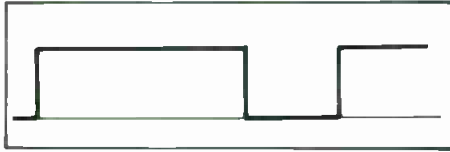
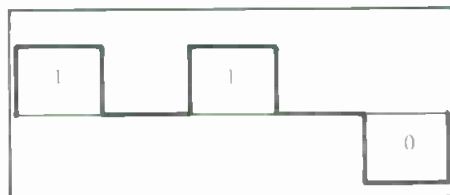

Figure 1. How many ones and zeroes are in this bit sequence?
Figure 2. A self-clocking code.
If we are to place all the data bits on one wire, we need a way to tell when one bit ends and the next one begins. Consider the bit sequence of FIGURE 1. Is that four 1s followed by two 0s, or eight 1s followed by four 0s? We need a clock to tell where the bits are. A similar type question concerns the difference between 15 1s and 16 1s. Unless we have an absolute clock time reference, we cannot make the judgment.
The simplest self-clocking code is the Return-to-Zero (RZ) code shown in FIGURE 2, with the data pattern 110. It is a tri-valued code which returns to the zero value in between each bit, regardless of the value of the bit. A positive value signifies a 1 and a negative value signifies a 0. It is self-clocking because each bit is observable regardless of the number of similar bits. In one sense,
We are now in a position to understand one of the interesting issues for self-clocking codes: How much must the bit rate be reduced to incorporate the self-clocking feature? This question relates to the concept of a maximum bandwidth for the channel. If we had a channel with a bandwidth limitation of 10 MHz, then the direct coding of FIGURE 1 could apply a bit rate of 20 Mbits/sec, whereas the RZ of FIGURE 2 could only apply 10 Mbit/sec. The direct coding is called NRZ (non-return-to-zero). The extra return to zero does produce a major cost in bandwidth. The highest frequency of the NRZ code is a sequence of alternating 1s and 0s; whereas, the worst case for the RZ is a sequence of 1s or a sequence of 0s.